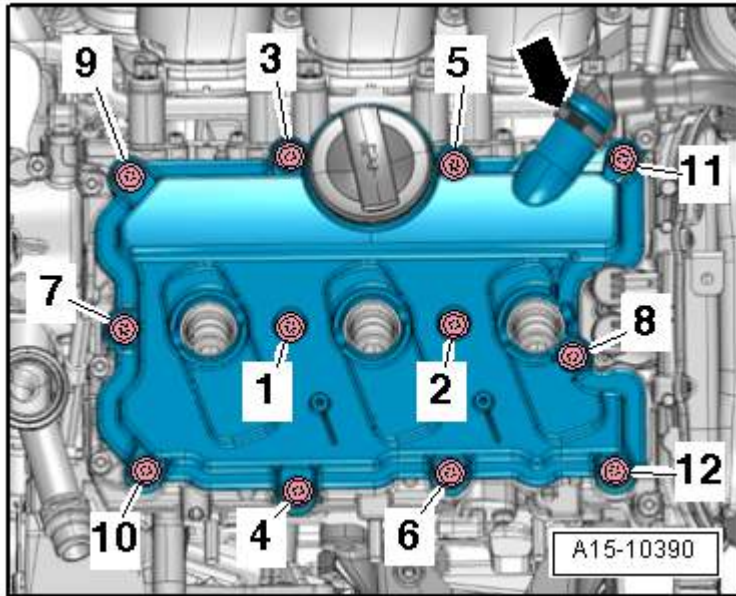
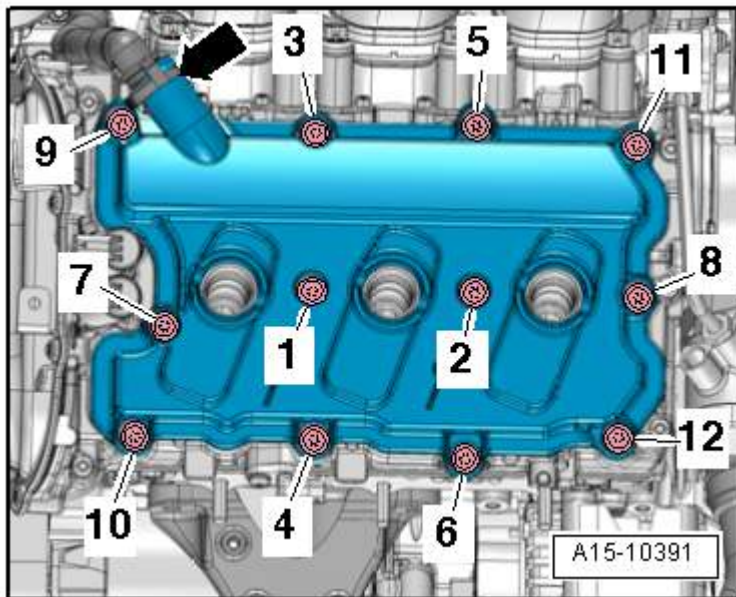

Fig. 5: Identifying Left Cylinder Head Cover Bolt, Tightening Sequence
Fig. 6: Identifying Right Cylinder Head Cover Bolt, Tightening Sequence
- Tightening specification and sequence: left cylinder head cover, refer to **Fig. 5**, right cylinder head cover, refer to **Fig. 6**